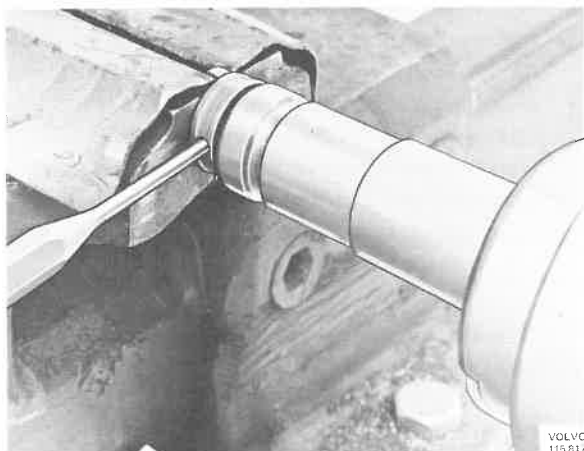

Fig. 34-13. Removing the flange pin
6. Remove the resilient ring and line-up mark the flange to ensure that it is re-fitted in the proper place in relation to the distributor shaft. Tap out the pin, see Fig. 34-13. Lift off the flange and pull up the distributor shaft. Take care of the washers.